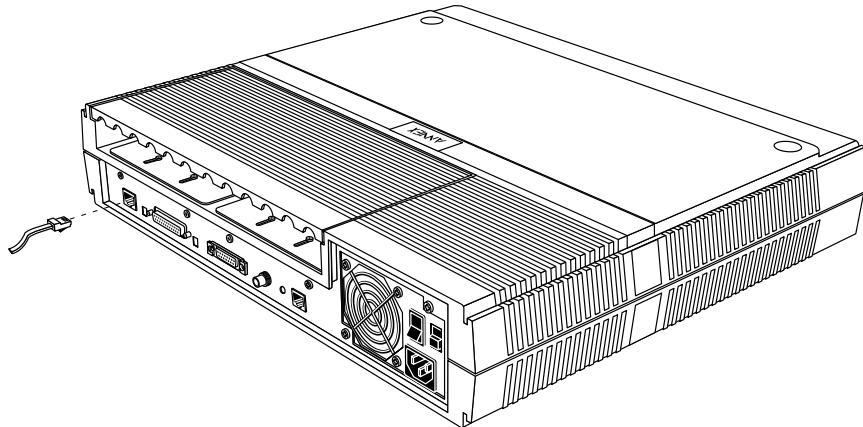

Figure 2-6. Connecting to a Console Terminal
- 2 Plug the RJ-45 connector into the console port located on the back panel of the Remote Annex 4000 (Figure 2-6).